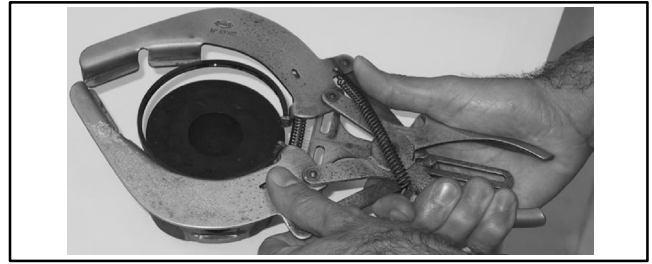

Figure 10-80 Piston and Ring Expander Tool
1. Using a ring expander tool, install the piston rings so that the “Top Marks” are towards the piston crown. See Figure 10-80.